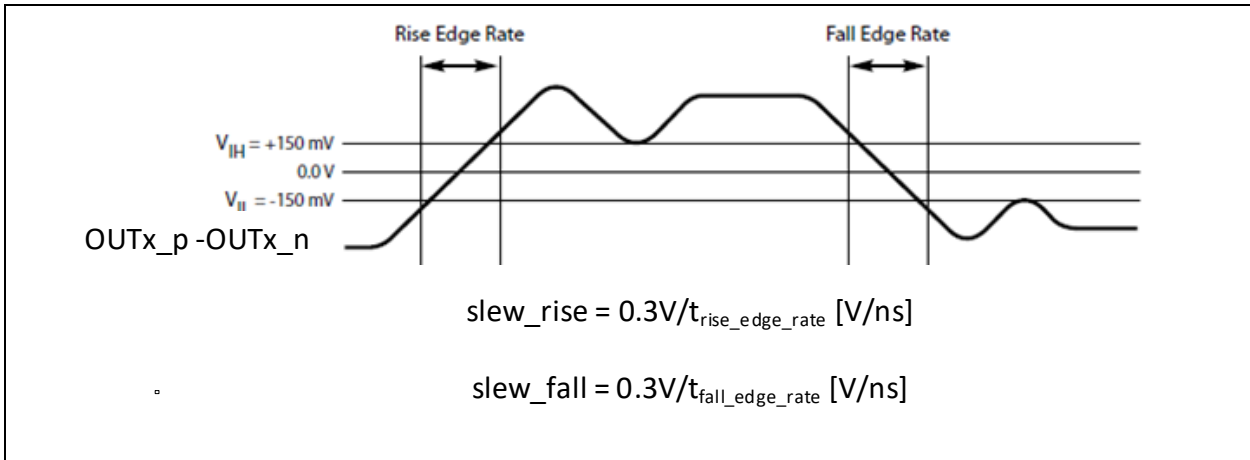

Figure 21. Differential Measurement Points for Rise and Fall Time
(0) Output differential swing is calculated as $V_{SW} = V_{OH} - V_{OL}$. It should not be confused with $V_{SW} = 2 * (V_{OH} - V_{OL})$ used in some datasheets
(1) Measurement taken from single ended waveform
(2) Measurement taken from differential waveform.
(3) Measured from -150 mV to +150 mV on the differential waveform (derived from CK minus CK#) The signal must be monotonic through the measurement region for rise and fall time. The 300 mV measurement window is centered on the differential zero crossing. See Figure 21